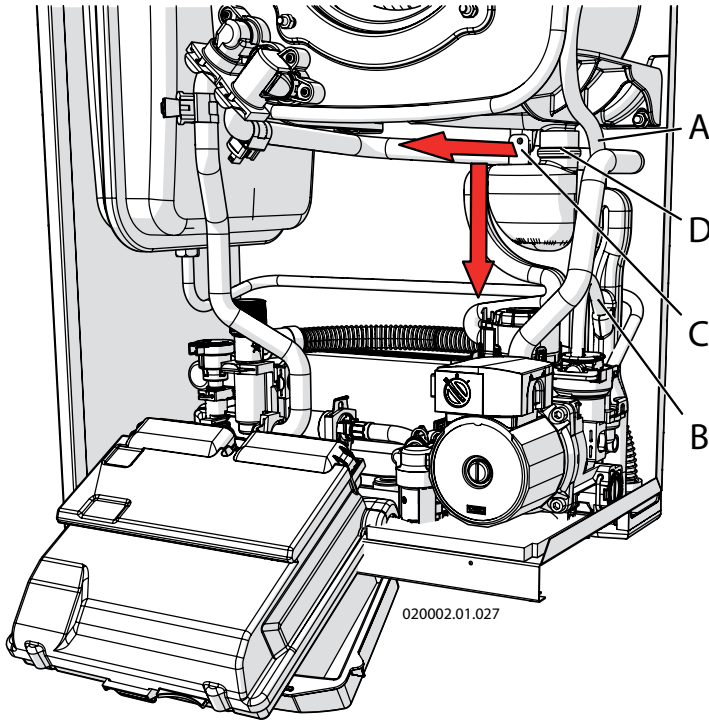

Figure 8.5 - Removal of the condensate collection siphon
- For correct cleaning of the collection siphon and the conveying of the condensate produced by combustion, operate as follows (refer to the figures 8.5, 8.6 and 8.7):